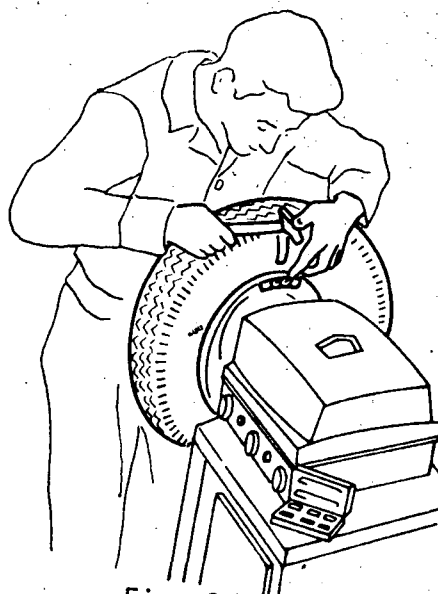

Fig. 8
- d) Remove the magnetic weight and replace it with an equivalent lead counterweight (fig. 8).